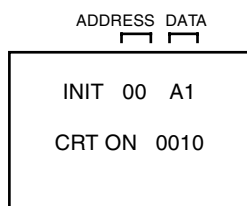

Fig. 1
2. Press both VOL. DOWN button on the set and Channel button **(6)** on the remote control for more than 1 second. ADDRESS and DATA should appear as FIG 1.